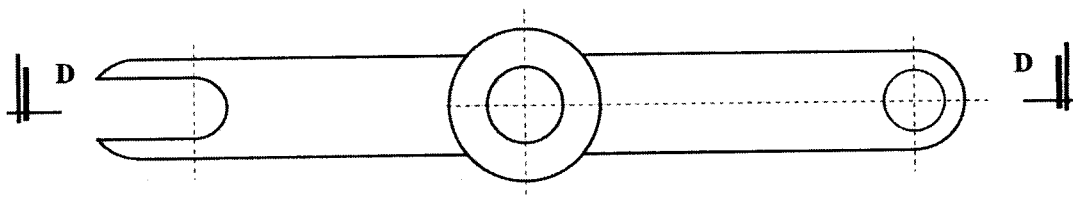

Figure 1
- (b) **Figure 1** shows a machine component. (2 marks)